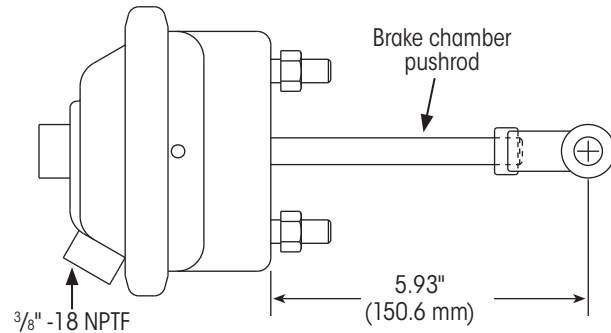

Figure 51: Brake chamber free length
1. **Measure** the brake chamber pushrod (Figure 51). If necessary, rotate the clevis to obtain a free length of 5.93 (150.6 mm) inches.